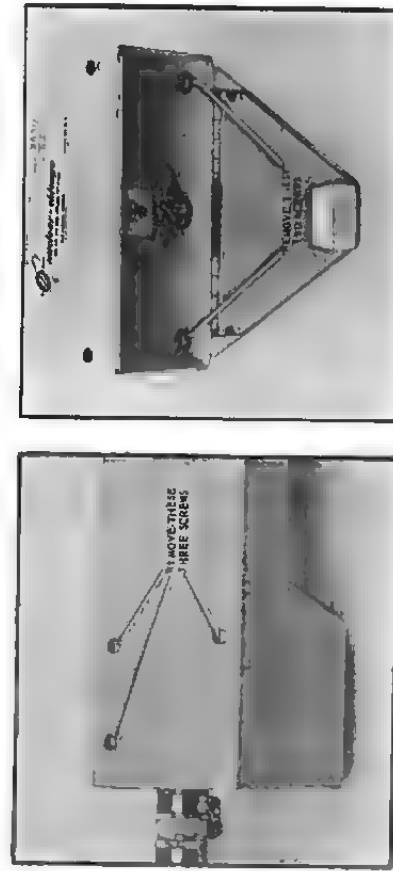

FIGURE 5 - ACCESS TO CHASSIS
3. Remove the three phillips head screws from the underside of the instrument case (see Figure 5).
4. Remove the two phillips head screws and lockwashers from the inside top wall at the end of the battery compartment. An offset screwdriver will be helpful (see Figure 5).